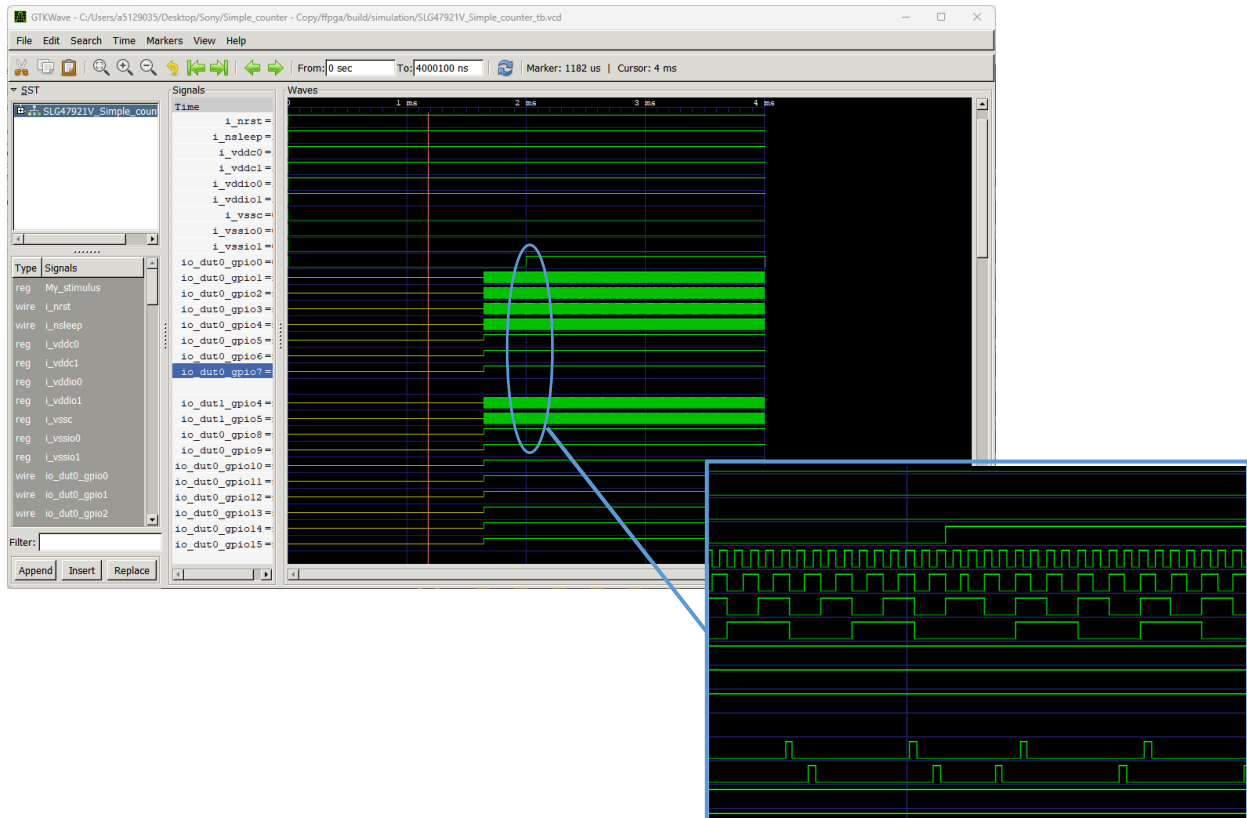

Figure 18. Full-Chip RTL Simulation Results (Multi-Chip Solution)
10. Verify the simulation results – review the output and confirm that the project functions as expected (Figure 18).